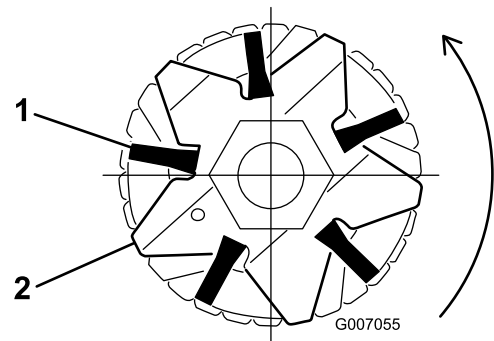
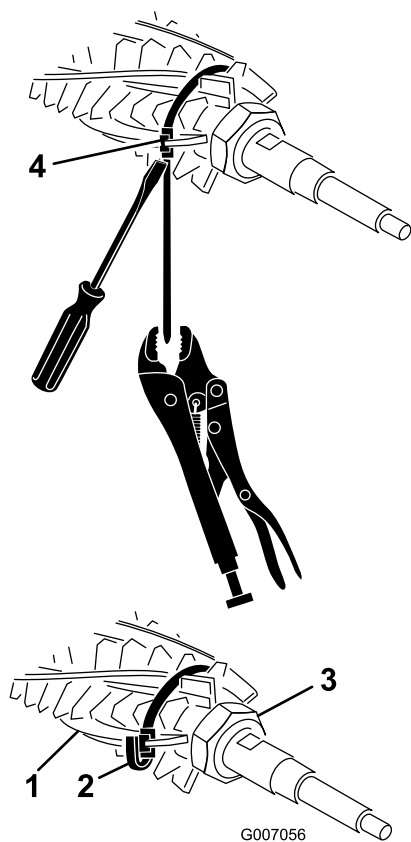

Figure 19
Figure 20
2. Verify that the brushes are seated in the groomer blade slots (Figure 19 & Figure 20).
3. Loosely wrap the straps, as shown in Figure 20, around the groomer reel shaft and brushes inserting the straps in the grooves in the brushes.
Note: If the broomer brushes are not seated properly in the blade slots, loosen the groomer blade retaining nuts on each end of the groomer shaft, position the broomer brushes properly in the blade slots and tighten the groomer blade retaining nuts (Figure 20).
4. While pushing a screwdriver against the strap buckle, grasp the strap with locking pliers, and pull the straps tight until they lock in the brush grooves (Figure 20).
3. Retaining nut (2)
5. Trim off the strap to approximately 6.4 mm (1/4 inch) from the buckle, and fold the excess strap over the buckle (Figure 20)